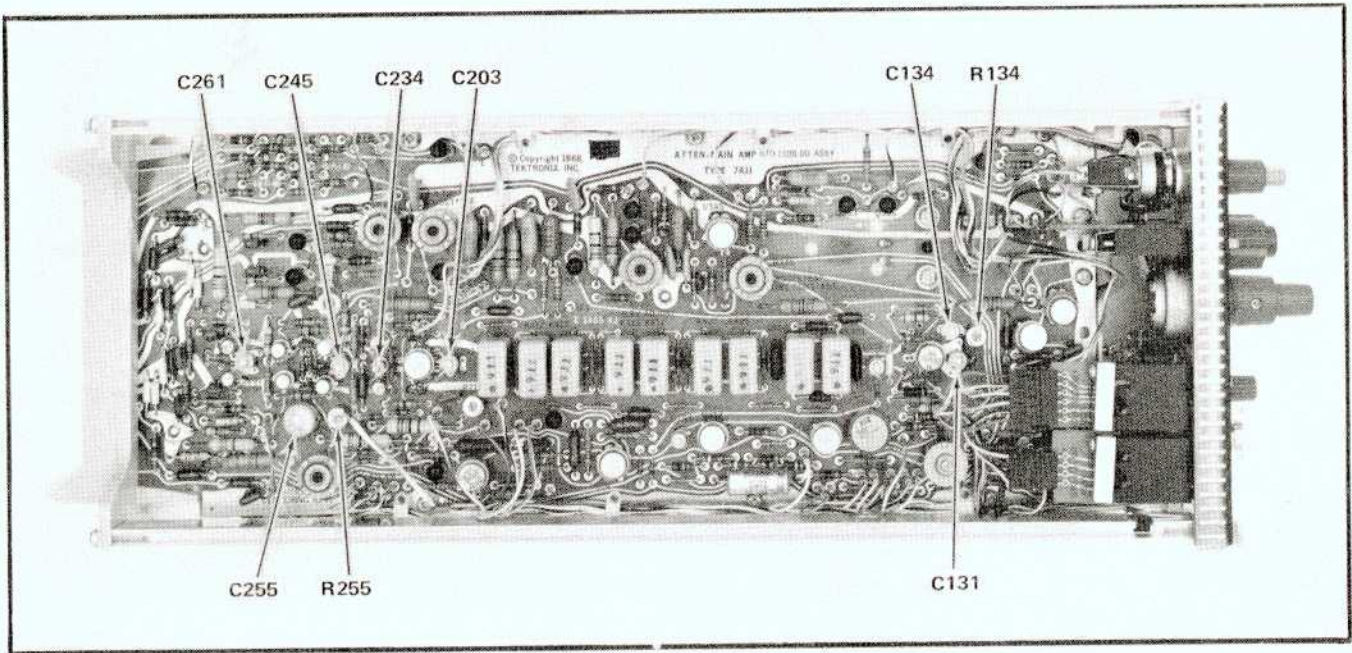

Fig. 5-12. Adjustment locations for step 12.
(1) Within the Plug-In Extender (item 10), disconnect the bottom connector on the left and on the right side. Connect the left and right side male connector to the Channel A and B inputs of the 3S1, respectively, using 2 ns cables (item 17) and GR-to-BNC female adapters (item 19).
(2) Connect the 7A11 to the Extender and install the Extender in the Oscilloscope vertical plug-in compartment.
(3) Connect the 7A11 Probe through the 50 Ω Termination/Adapter and a 5X GR Attenuator to the + Output Connector of the Type 106 Square Wave Generator.
(4) Select FULL Bandwidth at the 7A11.
(5) Switch the 3S1 Channel A and Channel B mVolts/Div controls to 50 mV.
(6) Adjust the Type 106 Square Wave Generator + Transition Amplitude as necessary to obtain a 5 division display on the Sampling System CRT. (7A11 at 10 mV/Div.) Use the 7A11 POSITION control to center the display.
(7) Perform the adjustments listed in Table 5-6, obtaining an optimum square top-left corner and flat top on the waveform. Adjustment locations are shown in Fig. 5-12.
(15) RE-ADJUST—C255 and R255 (Fig. 5-12) as necessary to make the 7A11 display as nearly like the Calibration Fixture display as possible. Do not change any other transient response adjustment settings. (Re-check the step function through the Sampling System if re-adjustment is done.)